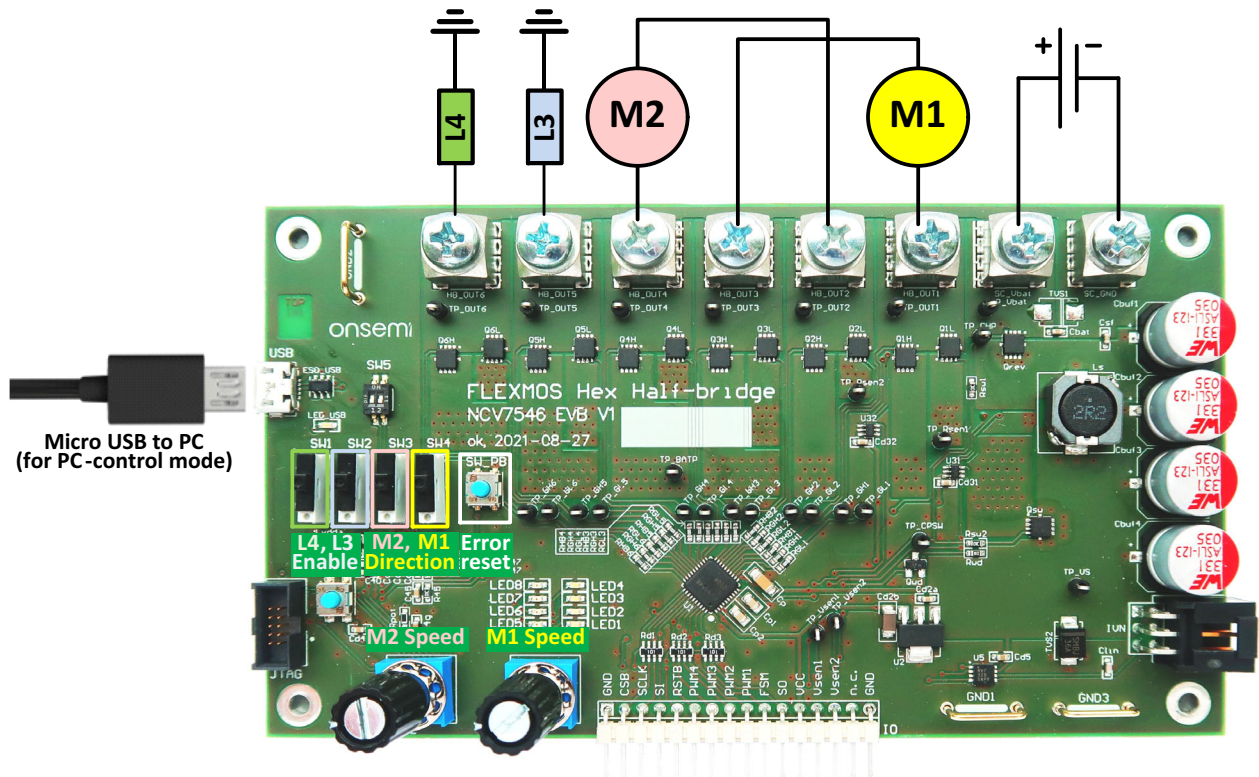

Figure 6. NCV7546 Evaluation Board Connections
1. Connect the loads to the screw bush connectors (see Figure 6). Supported loads are:
2. Connect the main supply (typ. 12 V) to “Vbat” and “GND” screw bush connectors (see Figure 6). The MCU starts in the Standalone mode automatically and NCV7546 is configured.
2. Connect loads to the bush connectors (see Figure 6).
3. Connect main supply to "Vbat" and "GND" bush connectors (see Figure 6).
4. Connect the board by a Micro-USB connector to a PC (see Figure 6).